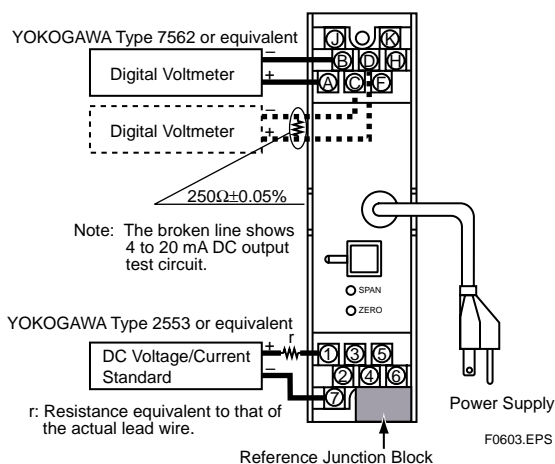

Figure 6-3 Thermocouple Input Converter Adjustment
- (a) Connect the test equipment corresponding to each input referring to Figure 6-1 through Figure 6-3.